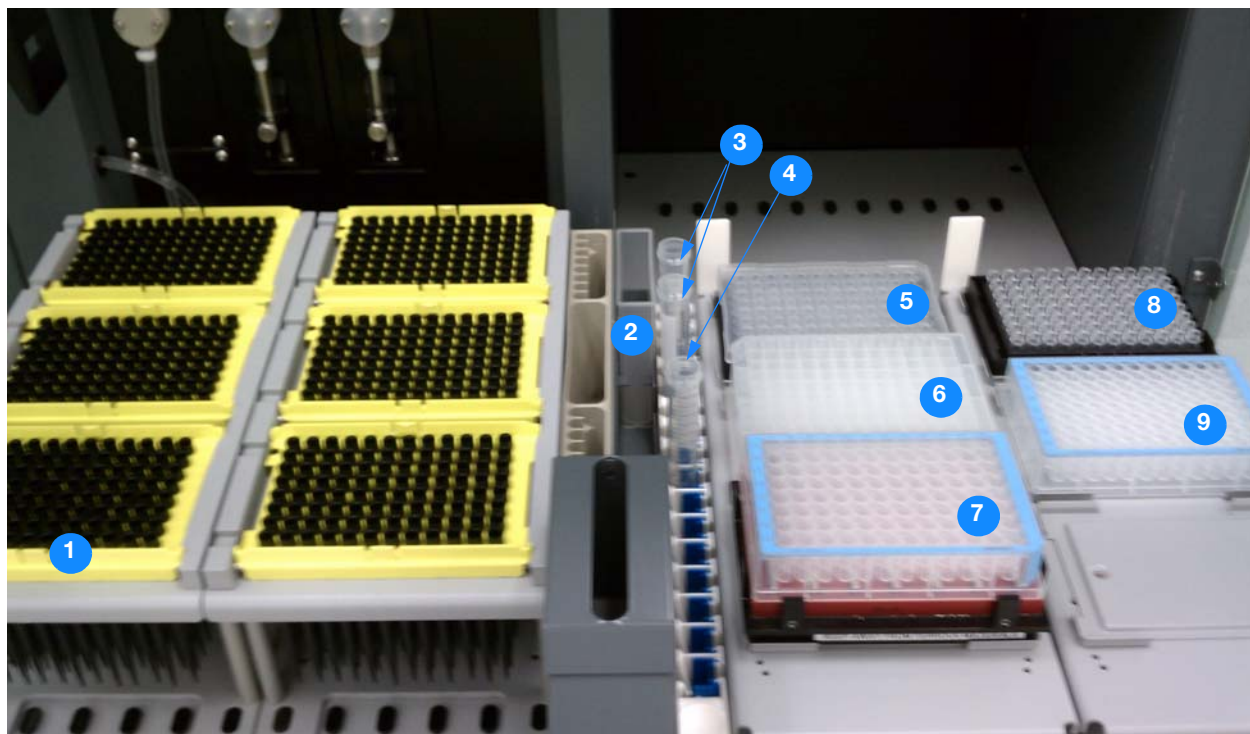

Figure 4 Layout of the worktable for Layout for SOLiD4_Frag_Part 2
1. Follow the prompts to setup the worktable (refer to Figure 4 on page 30):
For each position identified in Figure 4, the table below lists the reagents, and their worktable grid and site numbers.